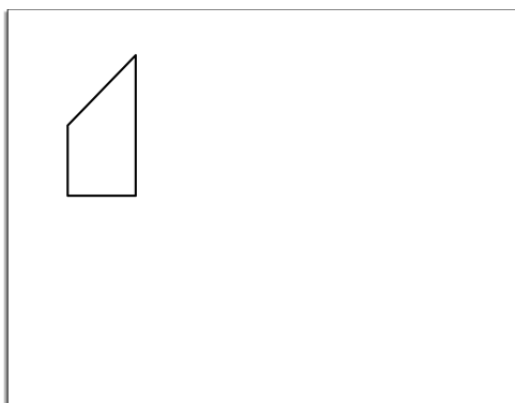

Figure 2: Rhomboid on Paper
1. Place a sheet of white paper on the lab bench, and then set the acrylic rhomboid (frosted side down) near the top-left corner of the paper. Adjust the orientation of the rhomboid to match that in Figure 2.